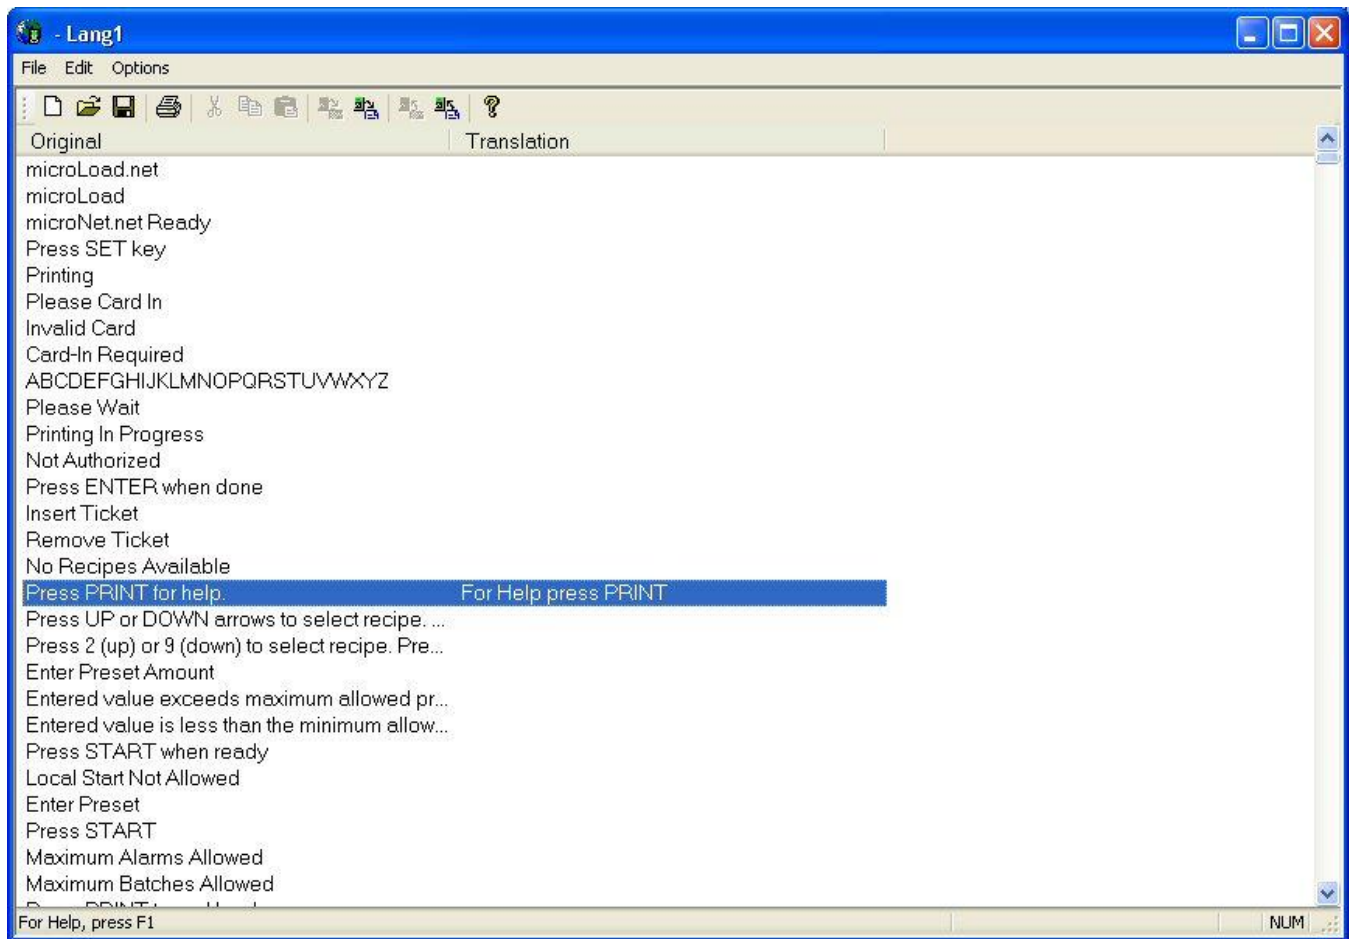

Figure 25. Translation Screen
3. Click "OK" to exit and save changes, "Cancel" to abandon the change, or "Help" for more information about this function. Assuming that new text was entered, it will appear to the right of the Translation Editor screen, as shown in Figure 25. The new literal, once downloaded to the microLoad.net, will appear in place of the original literal.